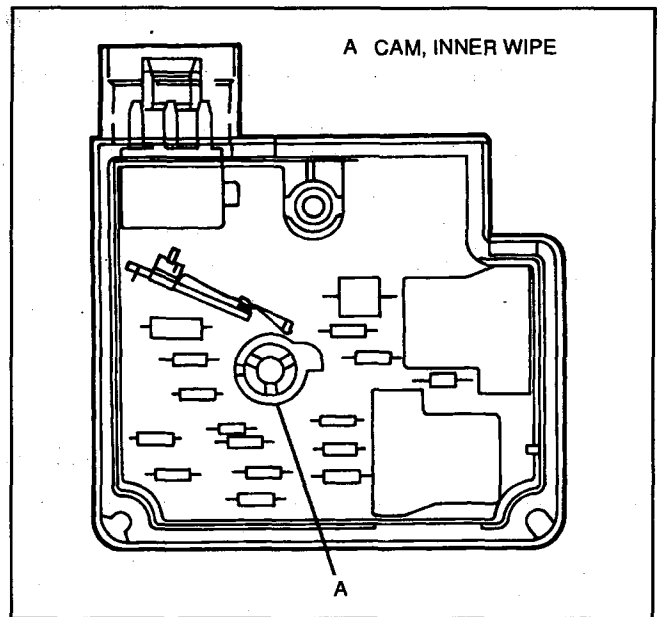

Figure 21 — Inner Wipe Cam Position for Cover Assembly Installation
- Before installing the cover assembly, make certain that the inner wipe cam is positioned as shown in Figure 21.